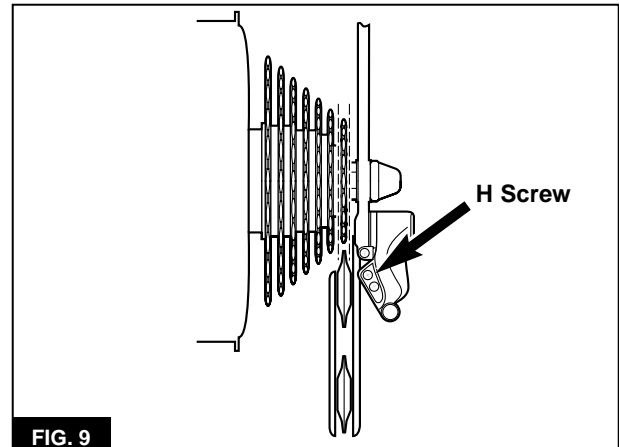

FIG. 9
- a. Stand behind the E-Bike™, and check the position of the derailleur. The guide pulley should align with the outermost cog as shown in **Figure 9**.
- b. Stand behind the E-Bike™, and check the position of the derailleur. The guide pulley should align with the outermost cog as shown in **Figure 9**.